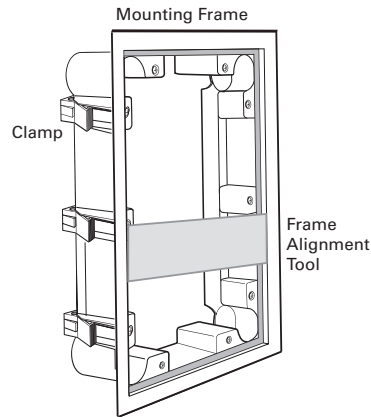

Figure 15: Frame Alignment Tool
9. Insert the frame alignment tool horizontally into the center of the frame. This tool functions as a frame spreader, while the clamps are being tightened, as shown in Figure 15.